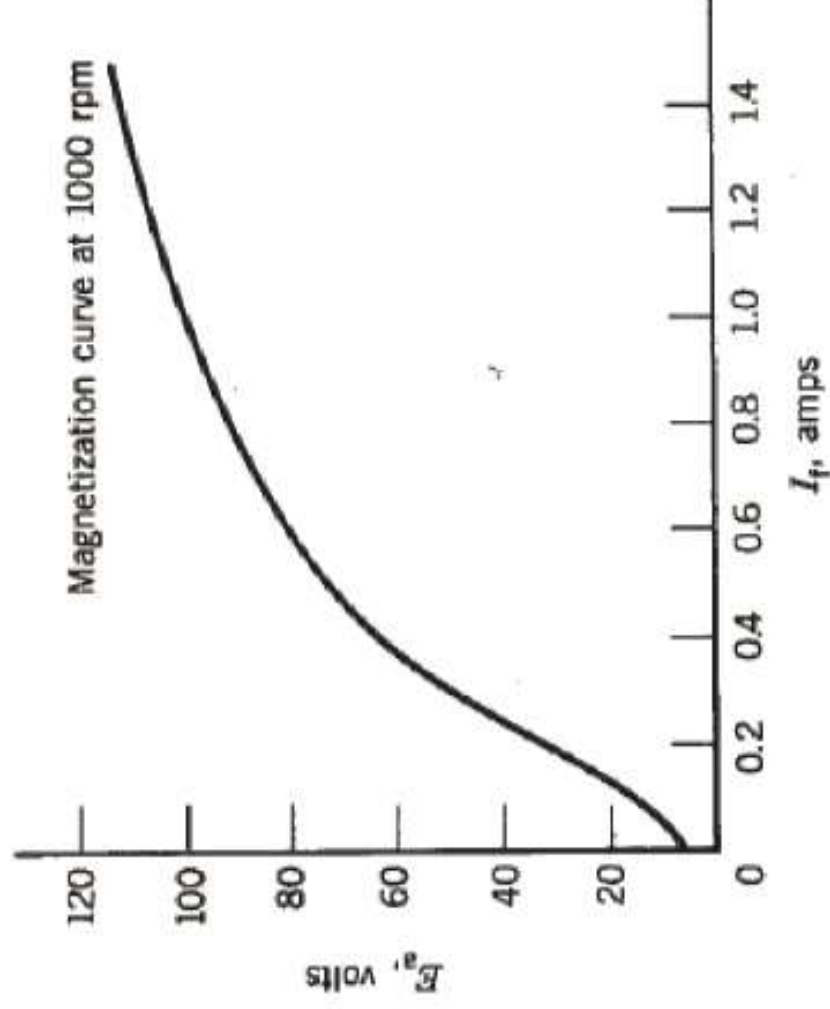

FIGURE 4.24 Test result: magnetization curve.
- A 12 kW, 100 V, 1000 rpm dc shunt generator has armature resistance $R_a=0.1\Omega$, shunt field winding resistance $R_{fw}=80\Omega$, and $N_f=1200$ turns per pole. The rated field current is 1 ampere. The magnetization characteristic at 1000 rpm is shown in fig.4.24.
From Fig. 4.24, at this field current
From Fig. 4.24, the effective field current required is $I_f(\text{eff}) = 1.4A$